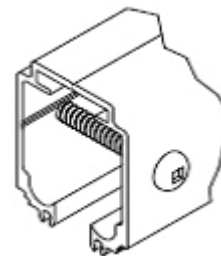

Figure 3: Track stop
- At the end of a track run, if the end of the track does not butt up to a wall, put a #10 x 1.5" long mounting screw through the track 1/2" from the end and vertically centered as shown in Figure 3.